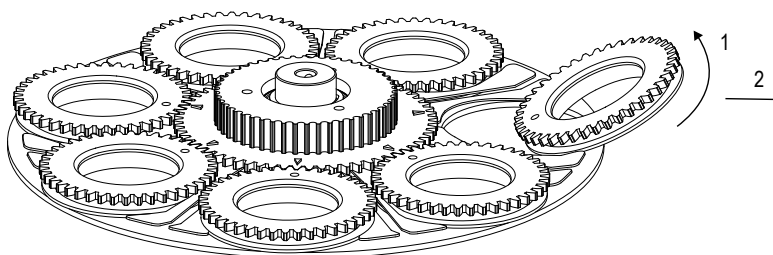

Figure 19: Gobo holder removal
3. Release the gobo holder by pushing the holder down, and slide it out from the gobo wheel (figure 19). **Do not touch the gobo.**